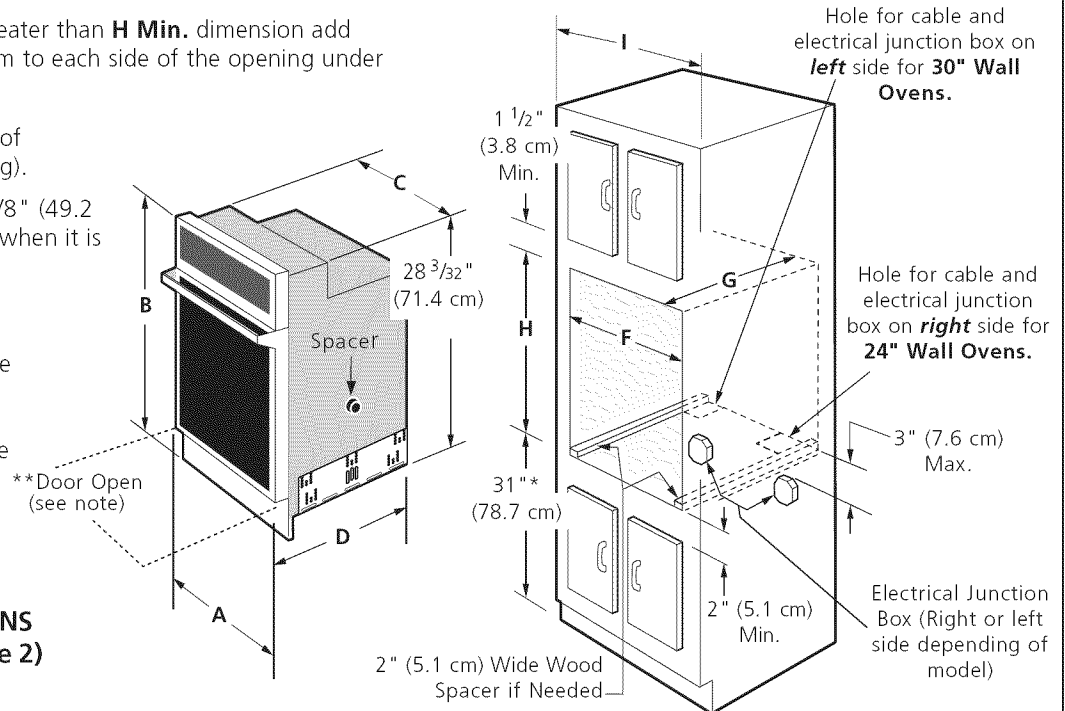

Figure 1
(Single Ovens see Figure 1)
Refer to figure 1 or 2 for the dimensions applicable to your appliance, and the space necessary to receive the oven. The oven support surface may be solid plywood or similar material, however the surface must be level from side to side and front to rear.
2. These appliances should be connected to the fused disconnect (or circuit breaker) box through flexible armored or nonmetallic sheathed cable. The flexible armored cable extending from the appliance should be connected directly to the junction box. The junction box should be located as shown in figure 1 or 2 with as much slack as possible remaining in the cable between the box and the appliance, so it can be moved if servicing is ever necessary.
Oven height can be adjusted with 2" (5 cm) wide wood shims when needed to fit into an existing cabinet cutout opening, when cutout height exceeds **H Min.** dimension (see Figure 1 or 2).